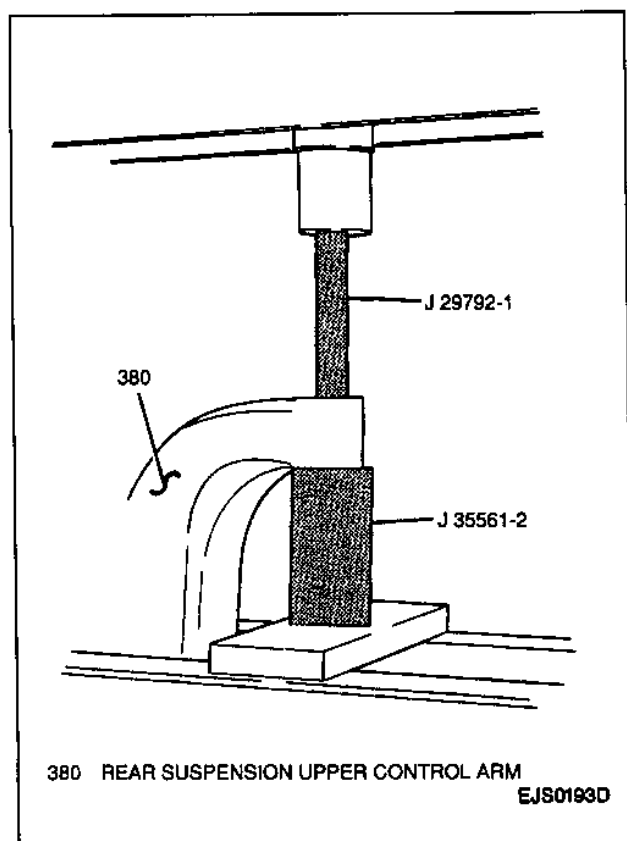

Figure 20—Removing Rear Suspension Upper Control Arm Bushing
Figures 20 and 21
2. Mount upper control arm into a press with a J 29792-1 and a J 35561-2 (Figure 20).